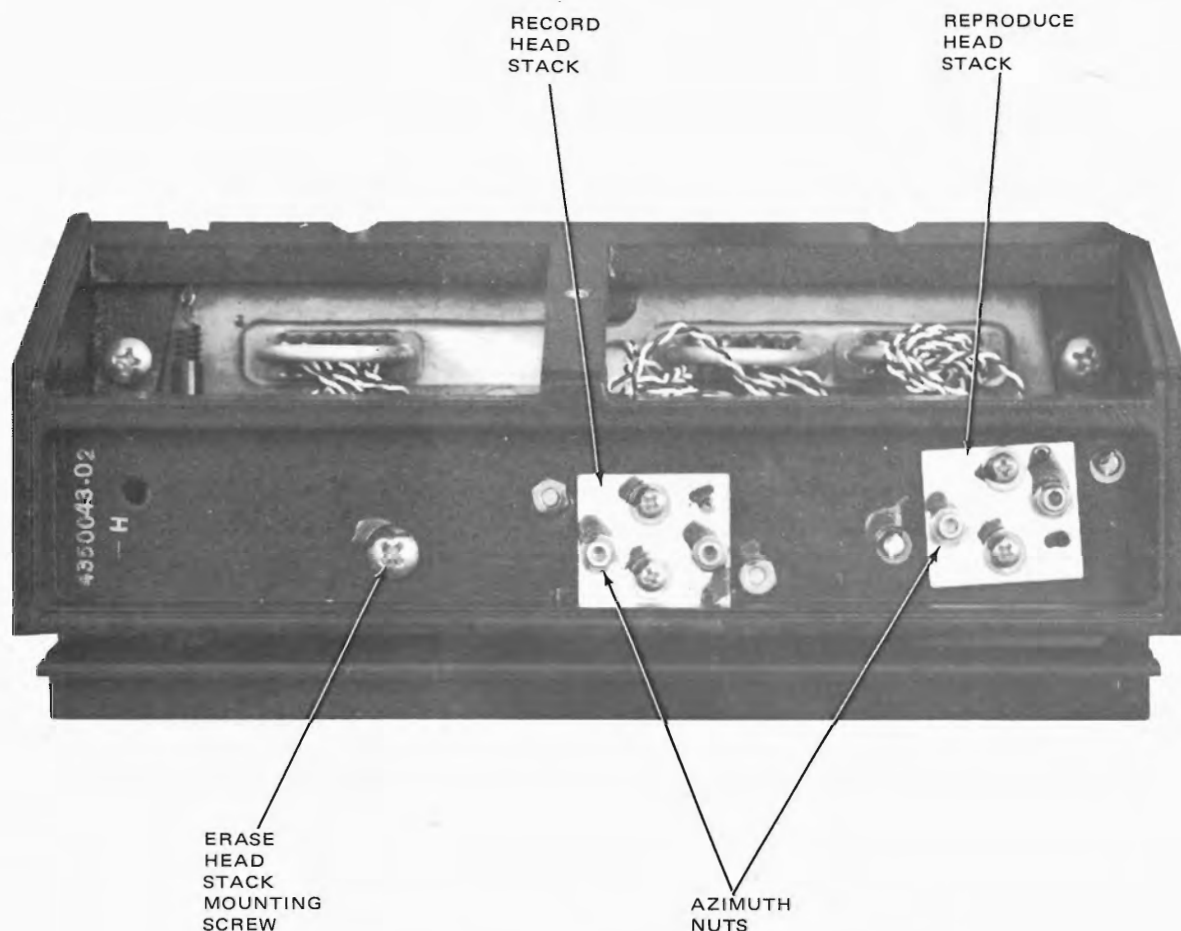

Figure 5-9. Head Azimuth Adjustments
**Reproduce Head Azimuth.** It is recommended that the reproduce head azimuth be adjusted at the lowest tape speed. This adjustment may be made using the equipment vu meters. It is made by adjusting the left-hand nut at the top of the reproduce head (see Figure 5-9).
7. Since the azimuth must be in approximate alignment to provide a signal at the 1-1/2 mil wavelength, it may be necessary to make a preliminary azimuth adjustment at this time. Place a nut driver on the left hand nut of the record head (Figure 5-9) and adjust for a maximum reading on the VU meter.
7. Adjust the record head azimuth nut (not the screw) shown in Figure 5-9 for a maximum reading on the VU meters. If all heads do not peak at the same setting, adjust for optimum output of all the heads.